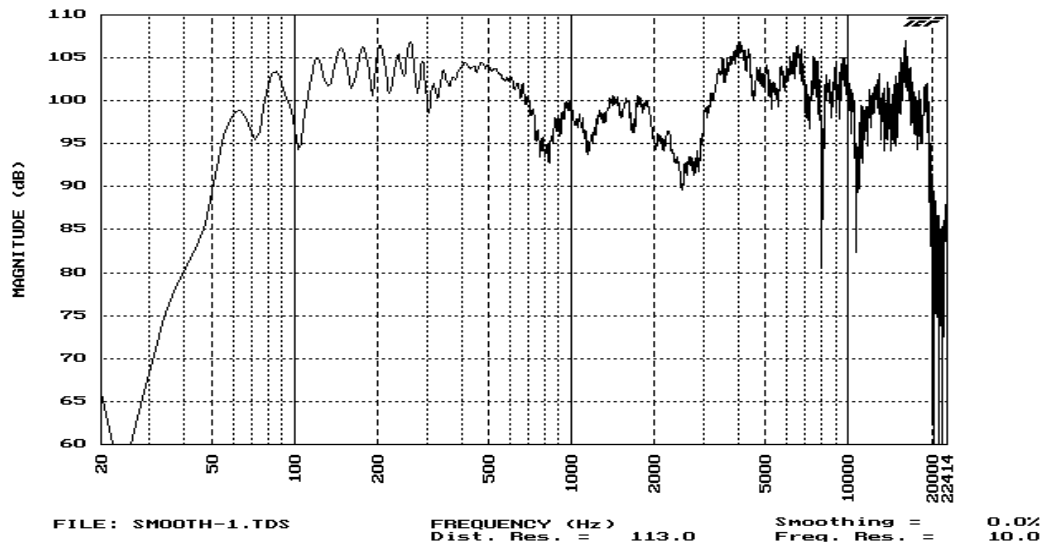
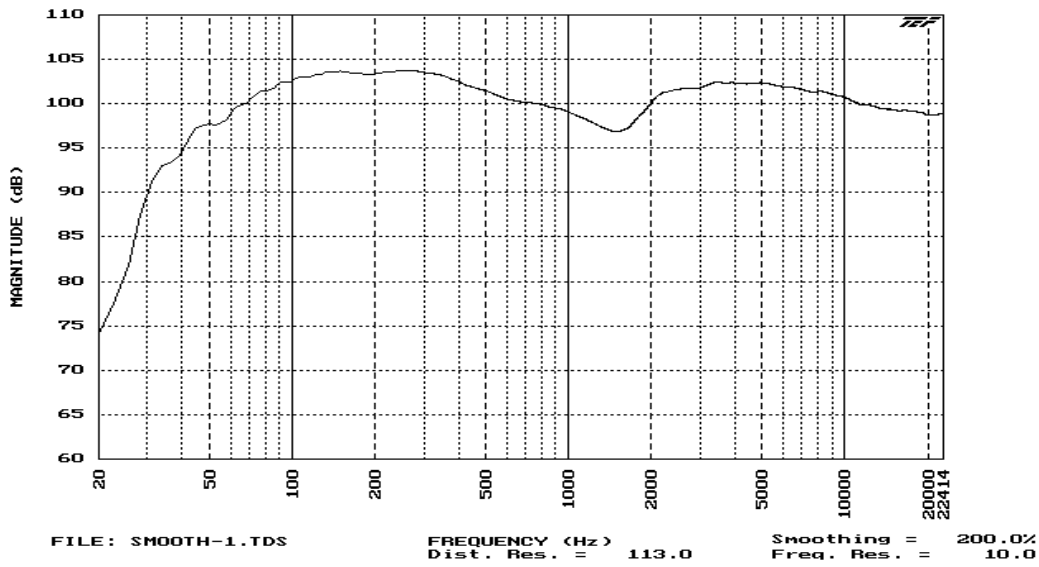

Figure 1. Raw Data
Figure 6. 200% (2 Octave) Smoothing
**Figure 1** shows a raw frequency response curve with 10 Hz frequency resolution. You can see the results of reflections in the low frequency and a smearing of high frequencies due to the high point density. Most people would agree that it is difficult to really judge the performance of this system from this curve.
**Figure 6** shows 200%, two octave smoothing. This figure bears little resemblance to the raw data seen in Figure 1. Furthermore, if you read Figure 6 without also seeing the raw data, you would conclude that you are looking at a well behaved loudspeaker with a variance of +/- 3dB over its operating range, when in fact it is a defective speaker that was rejected by manufacturing testing.